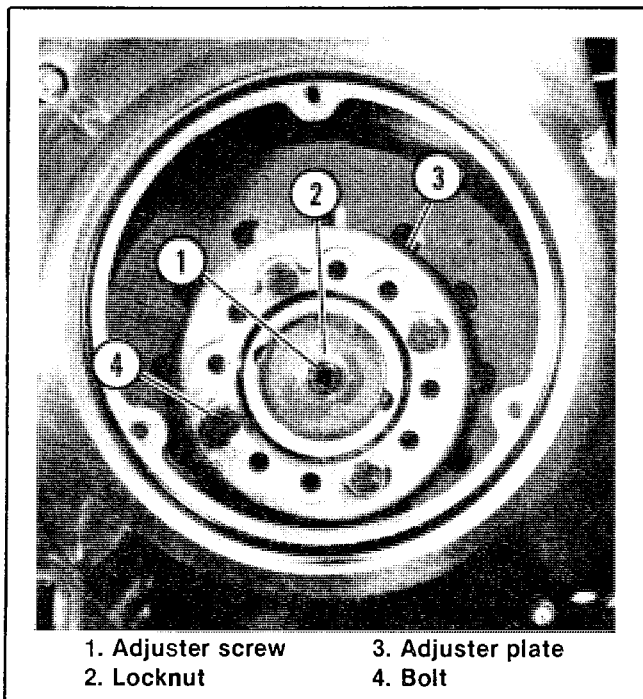
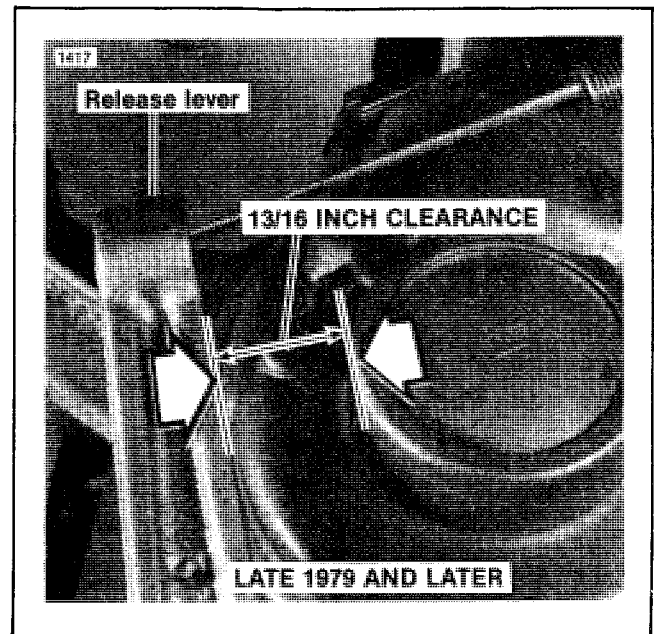
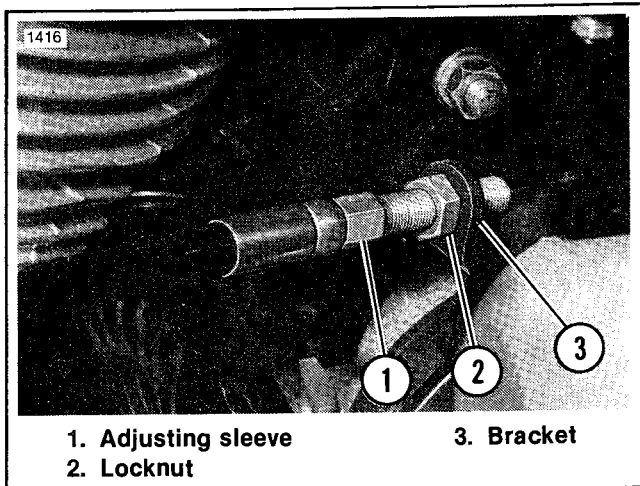

Figure 4. Push Rod Adjustment
Figure 5. Release Rod Measurement
Figure 6. Clutch Cable Adjustment
3. Loosen clutch adjusting screw locknut (2). See Figure 4. Turn adjusting screw (1) inward (clockwise) to take up all free play in push rods.
4. Back out adjusting screw (counterclockwise) 1/8 to 1/4 turn. Tighten locknut (2) while holding adjusting screw (1) with allen wrench.
6. See Figure 5. Steps 6 thru 10 apply to 4 speed vehicles only. Move the release lever forward as far as it will go. Measure the clearance as shown.
7. See Figure 6. If measurement is not as shown in Figure 5, loosen locknut (2). Turn the adjusting sleeve (1) all the way into the bracket (3).
8. See Figure 4. Loosen the push rod locknut (2) and turn the screw (1) outward so there is no tension on the push rod.
9. See Figure 6. Turn the adjusting sleeve (1) outward until the proper measurement as shown in Figure 5 is obtained. Tighten the locknut (2).
10. See Figure 4. Turn the screw (1) inward until contact is made with the push rod, then back off 1/8 - 1/4 turn. Tighten the locknut (2).